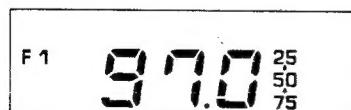

Fig. 12
Each time the < Tuning Button ⑪ is pressed, the frequency decreases 25kHz. If you continue to press the button without releasing it, the frequency will continuously decrease in 25kHz increments. (Fig. 12)